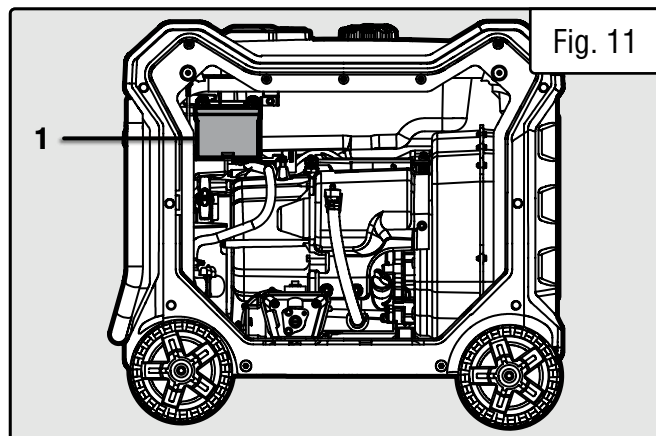

Fig. 11
1. Open the right side panel by unscrewing the two panel lock knobs and locate the battery (Fig. 11 - 1).